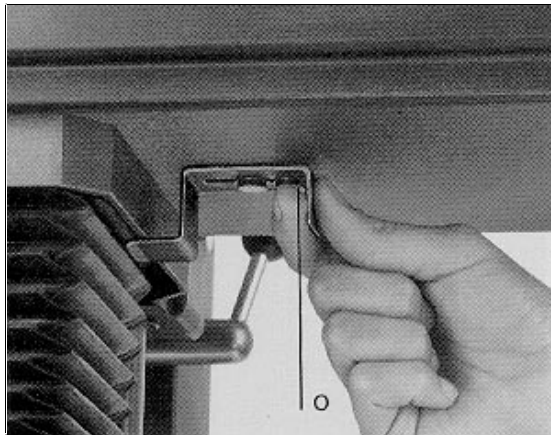

Figure 2-22. Locking Head in Place
- c. Lock the head in place by pushing the latch (o, figure 2-22) toward the camera body.